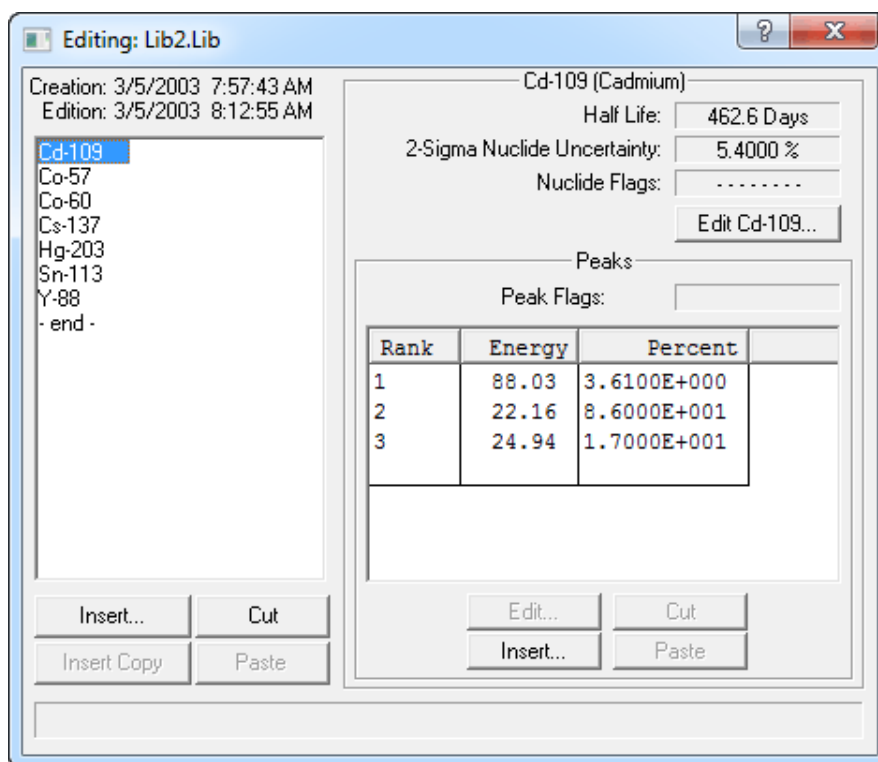

Fig. 98. Library Editor Dialog.
Figure 98 shows the library Editing dialog.
1. Click on the nuclide to highlight it. The **Edit...** button (in the upper right of Fig. 98) will change to **Edit** plus the name of the nuclide, as shown in Fig. 102.